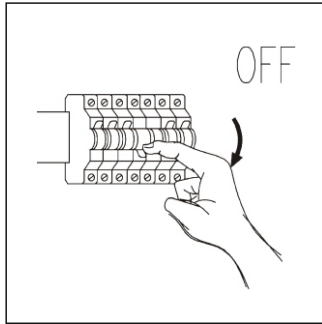

Fig.2
**Step 1:** Switch off mains supply (Fig.2).